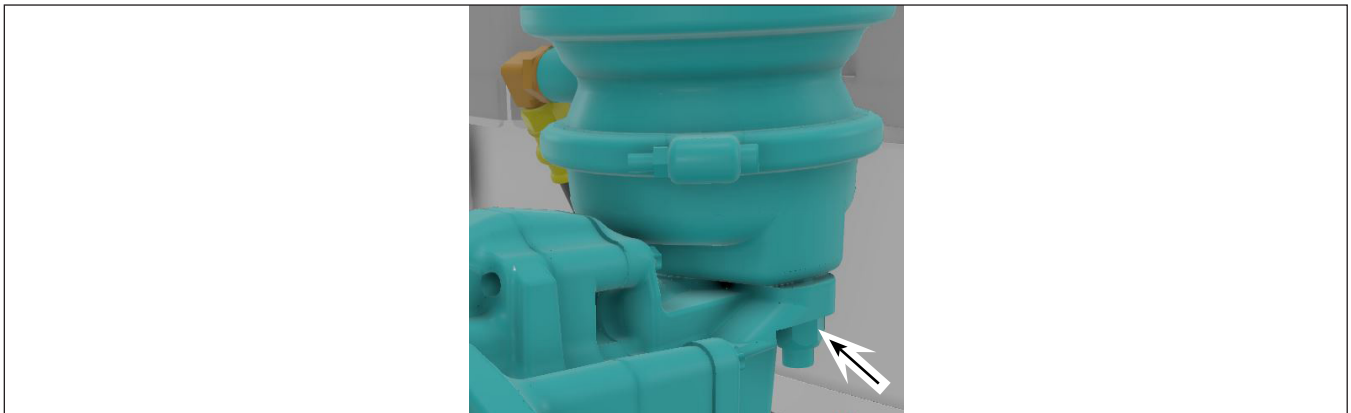

Figure 3 - Remove the Two Mounting Nuts
- 1.13. Install the brake chamber with new nuts and torque to 139 ± 6 lb-ft. Use hand tools only, do not use an impact wrench. Apply torque seal. See figure 3.